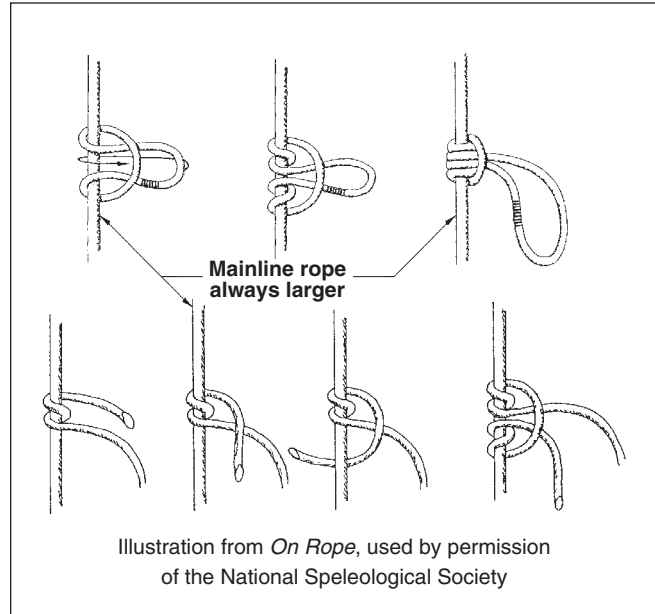

Figure 3e—Prusik knot.
1. **Prusik knot.** The Prusik knot is a friction knot (figure 3e). This knot is described as a rope that is wrapped around and grips the main climbing line in such a way that it will not slide under tension. When there is no tension on the knot, it can slide freely up or down the rope. To slide the Prusik knot, push or pull on the outside wrap. Holding the entire knot adds friction, and the knot will be difficult to adjust or slide. For the Prusik knot to work properly, it must be formed from rope that is no larger in diameter than the rope on which it is being tied. Generally, a more flexible rope is used to tie the Prusik knot onto the main climbing line when solid gripping is needed; a stiffer rope is used to tie the Prusik knot onto the main climbing line when the knot must move easily. The Prusik knot has many uses in tree climbing: it is used to construct adjustable lanyards and the Prusik rappel system as well as to attach gear to rappel ropes. This knot must be dressed and set to function properly.